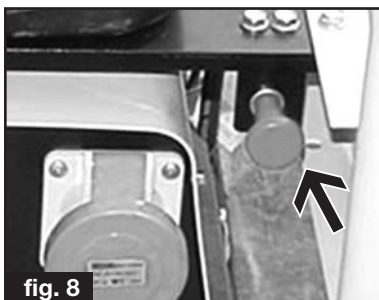

fig. 8
- 2) W230 models: Pull the knob placed on the control panel (see fig. 8). Wait until the engine is completely off. Turn the key to the "OFF" position.